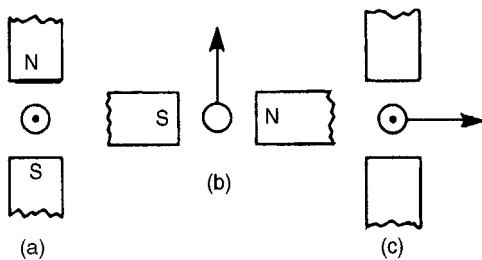
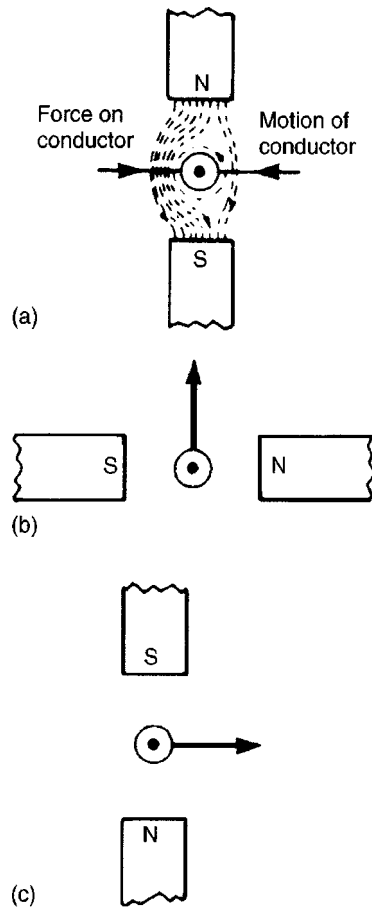

Figure 9.4
Figure 9.5
Problem 5. The diagrams shown in Fig. 9.4 represents the generation of e.m.f's. Determine (i) the direction in which the conductor has to be moved in Fig. 9.4(a), (ii) the direction of the induced e.m.f. in Fig. 9.4(b), (iii) the polarity of the magnetic system in Fig. 9.4(c)
(i) Using Lenz's law: The field due to the magnet and the field due to the current-carrying conductor are shown in Fig. 9.5(a) and are
i.e. **towards the viewer or out of the paper**, as shown in Fig. 9.5(b)
(iii) The polarity of the magnetic system of Fig. 9.4(c) is shown in Fig. 9.5(c) and is obtained using Fleming's right-hand rule.